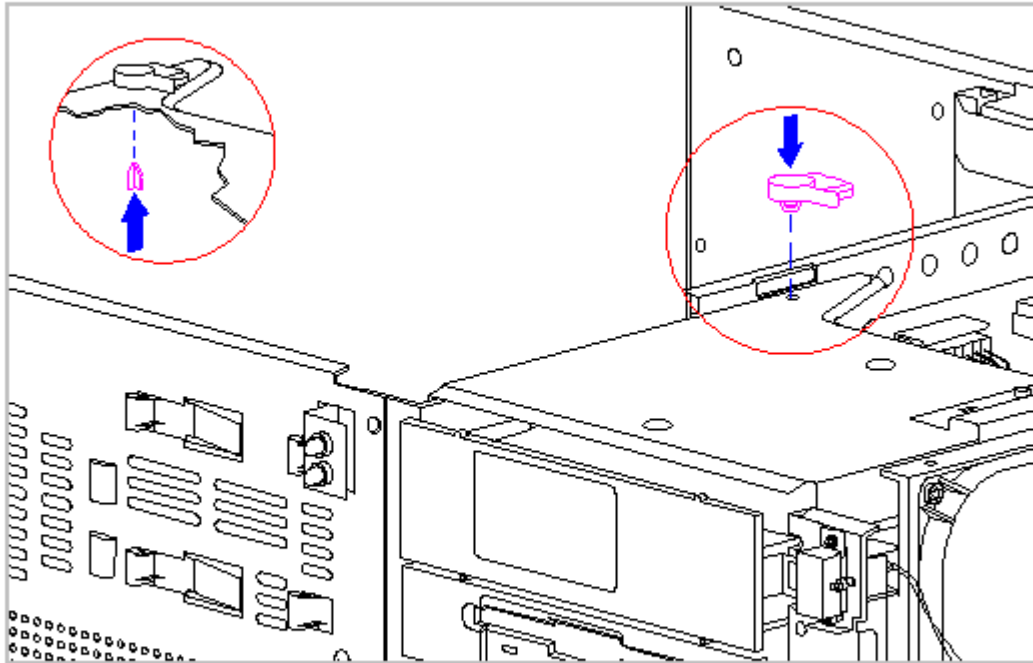

Figure 5-35. Installing the Drive Cage Lock
4. Install the replacement lock by snapping it into place as shown in Figure 5-35.
NOTE: On models with CD-ROM installed, disconnecting the speaker cable from the backplane board (Figure 5-35) will prevent interference from this cable during these procedures.